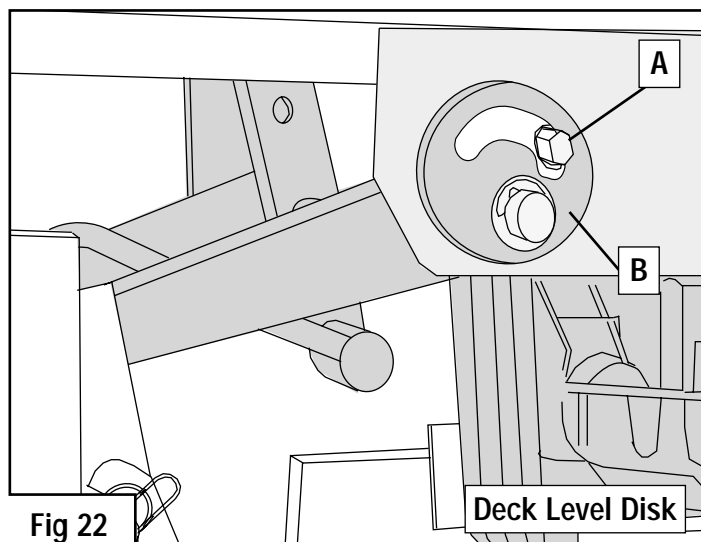

Fig 22
2. Using a 1/2" spanner, loosen the 5/16" Nyloc nut (fig 22) (A) securing this stud just enough to permit some movement.
3. Now lift or depress the Deck depending on the adjustment you wish to achieve. This will move the stud up or down the disk (B) – the higher up and nearer the centre of the disk the higher the deck.